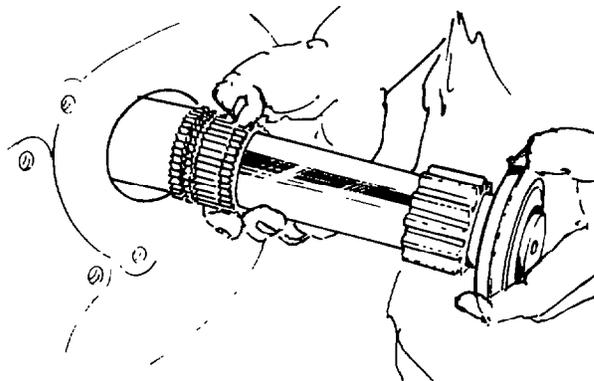

Fig. 211 — Installing Main Drive Pinion
- z. Install the main drive pinion taking care not to damage the spigot bearing (see fig. 211).